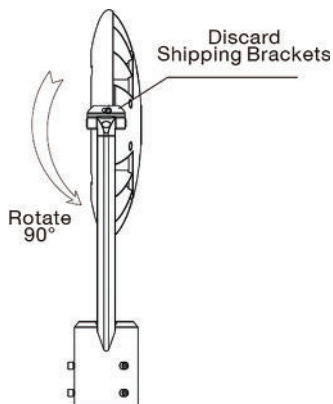

Figure 1
1. Discard the shipping brackets by removing the allen bolts that hold them in place. Keep the bolts as they will be required to secure the fixture when rotated for installation (Figure 1).